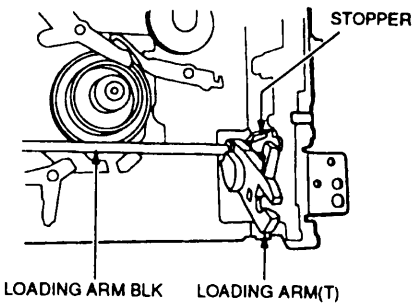

Fig 5.
- 1: Release the stopper on the right side end of the LOADING ARM BLK's shaft as shown in Fig 5, by pressing the stopper tab with a flat head (-) screw driver. Then remove the shaft's right end from the bracket.
- 2: Hold the LOADING ARM (T) and then pull out the shaft's left end from the bracket. Take special care when removing it to avoid damaging the pins (refer to Fig 5).